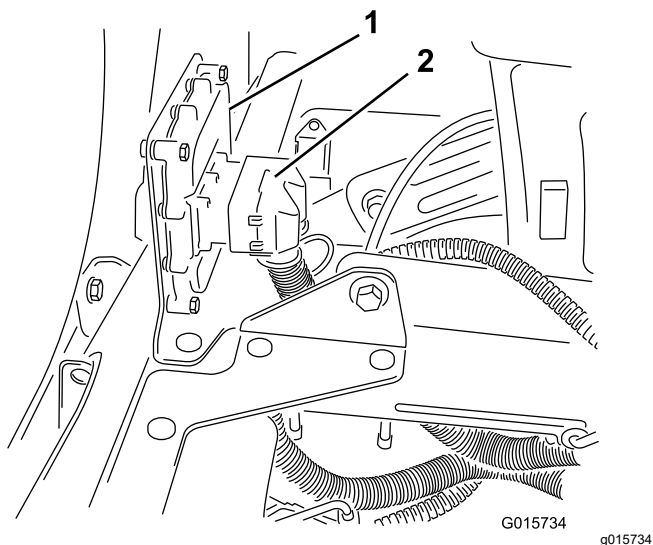

Figure 20
- Connect the 50-socket connector of the wire harness for the sonic boom to the 50-pin connector of the electronic controller, and secure the connectors with the socket-head screw (Figure 20).